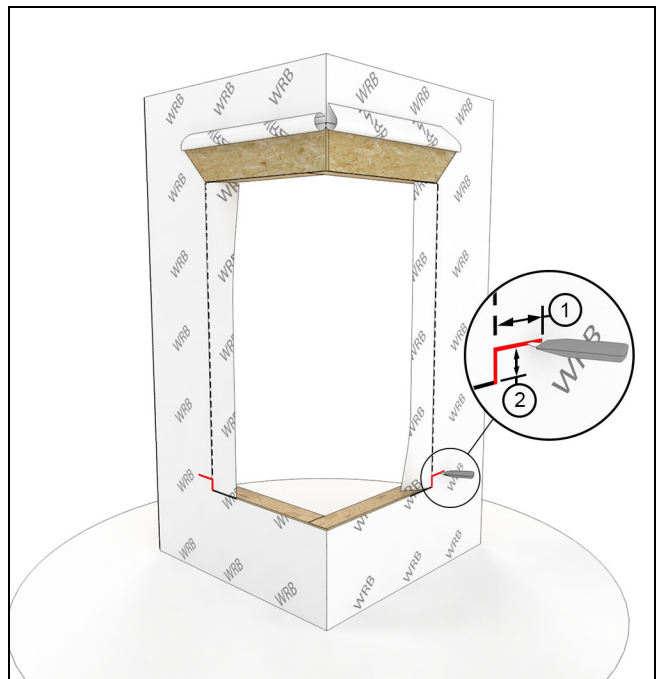

Figure 9
8. At the sill, trim the bottom corners about 3 1/2" (89) wide on each side and then make an additional 2" (51) vertical cut. See Figure 9.